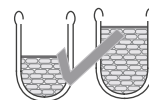

Fig. 1
2. Put remaining clothes & press the clothes again. (fig. 1)